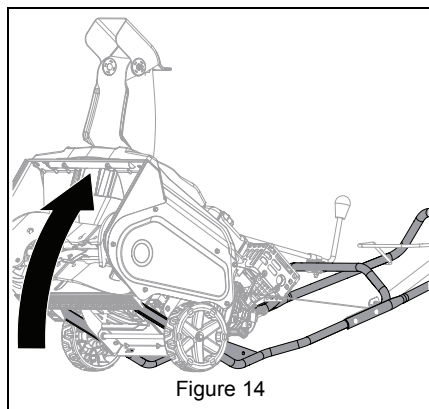

Figure 14
- See Figure 14.
2. Tip unit back onto handlebar bend. See Figure 14.